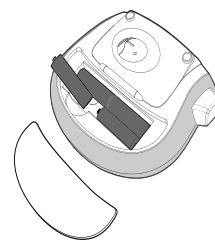

Figure2
- 1 Remove the battery compartment cover. See Figure 2.